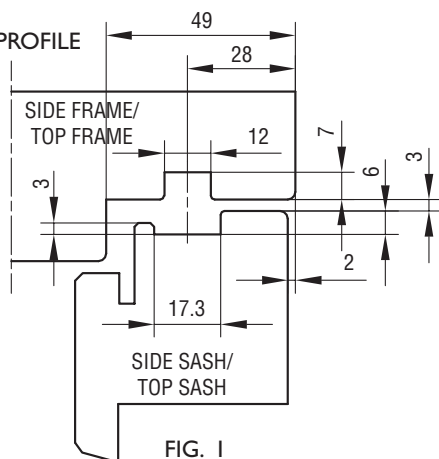

FIG. 1
- 21175: SIDE SASH & - FRAME AND TOP SASH & -FRAME ARE MADE WITH THROUGH-GOING GROOVES, SEE FIGURE 1.
21179-82: SIDE SASH & - FRAME ARE MADE WITH THROUGH-GOING GROOVES, SEE FIGURE 1.
21179-82: IF THE TOP SASH IS MADE WITH GROOVE, FIG. 1, FIRST PLACE THE SMALL MOUNTING BRACKETS IN EACH SIDE UNDER TOP BRACKET OF THE FITTING BEFORE FASTEN THE SCREWS.